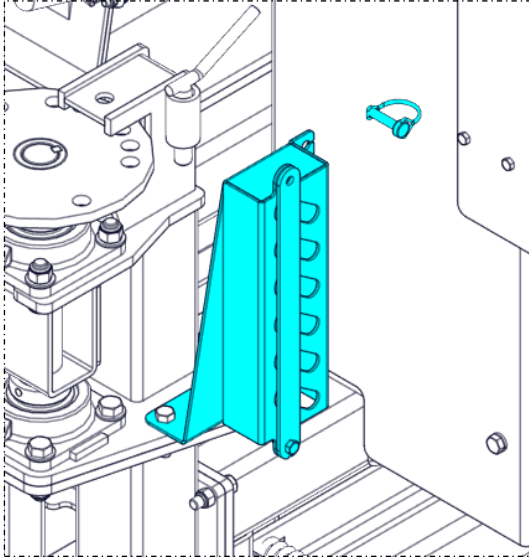

Figure 4.1
- A) Open the quick pin that is holding the lock plate and the front panel of the hose hanger (Figure 4.1).